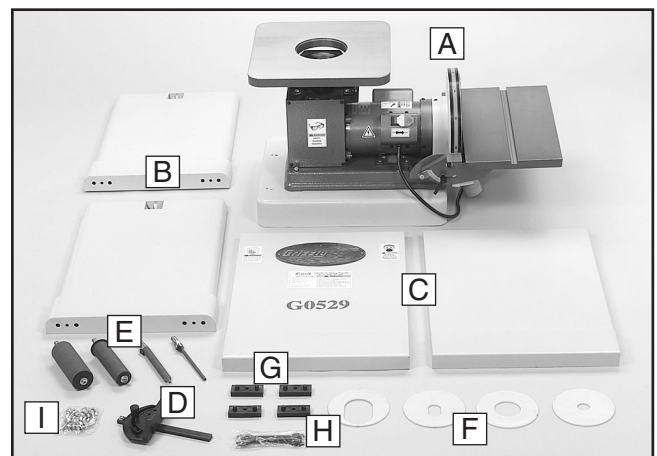

Figure 3. G0529 inventory.
1. Connect all four panels together with the $\frac{5}{16}$ " -18 x $\frac{3}{4}$ " hex bolts, lock washers, washers and hex nuts (**Figure 3**).